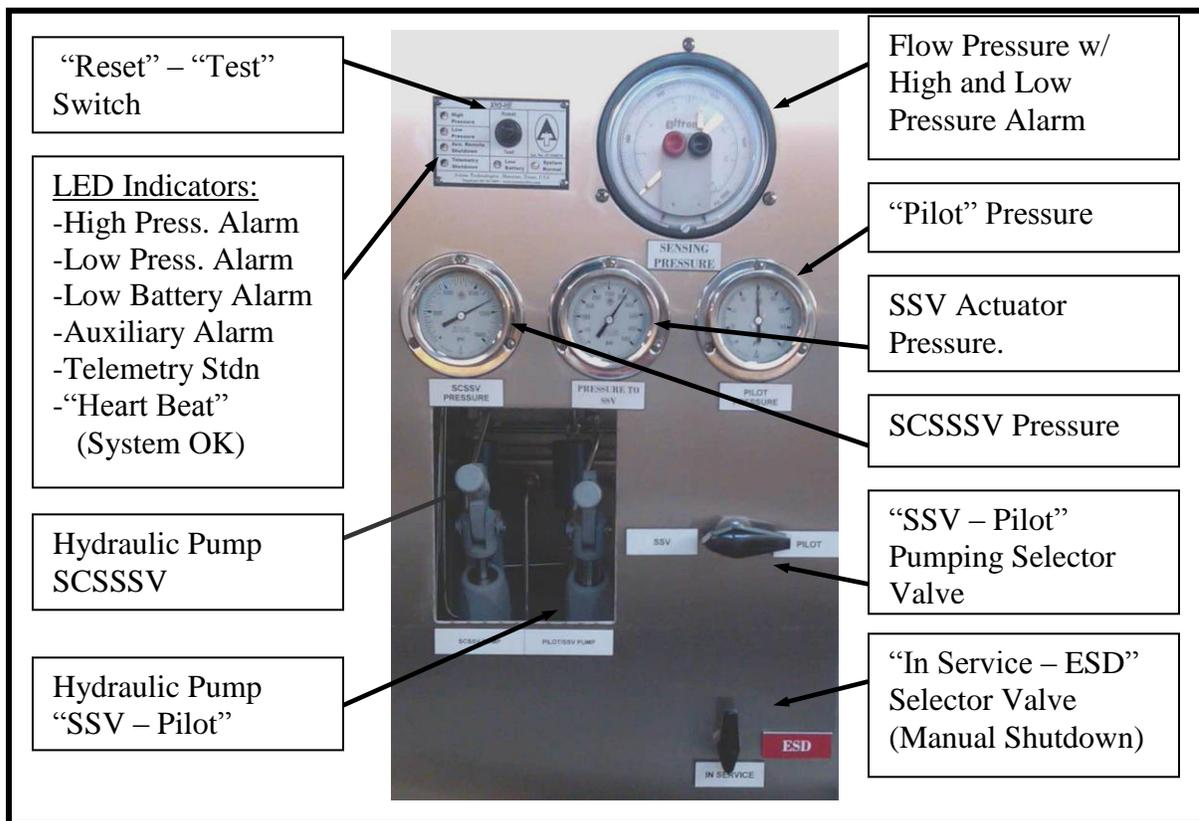
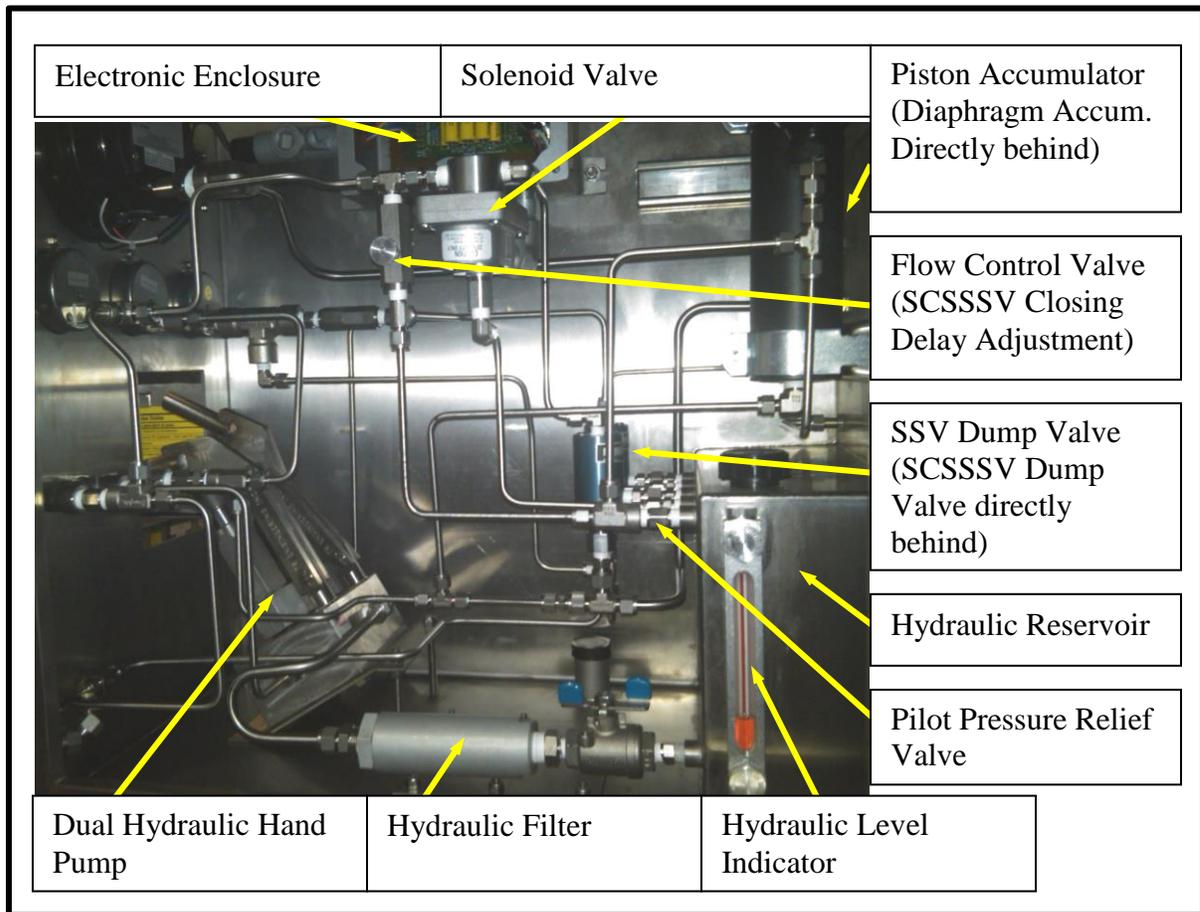

Fig. 1 XH5DDS-HE Front Panel.
Fig. 2 – XH5DDS-HE Enclosure’s Interior
The XH5DDS-HE is built to operate exposed to the elements as all hydraulic components are enclosed in a stainless steel box while the electronic circuits and battery module are enclosed in an explosion proof box inside the stainless steel box. The front of the panel includes the gauges and controls as shown in Fig.1 while the inside components are shown in Fig. 2.
- 18- The time lapsing between the activation of the ESD can be adjusted by adjusting the "Flow Control Valve" (shown on Fig.2, page 3 of this manual).